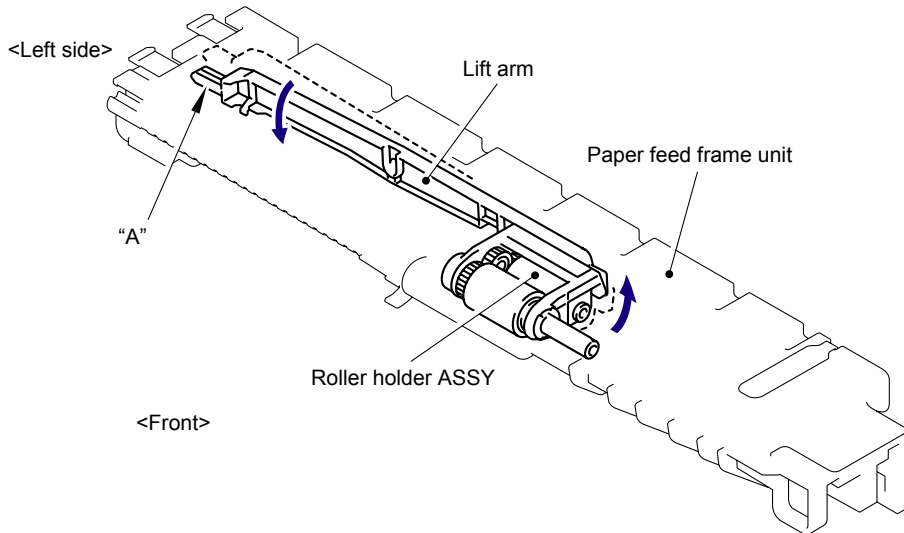

Fig. 3-182
- 1) When pushing up the Roller holder ASSY with your hand, the end (section "A") of the Lift arm goes down. That makes easy to push the end of the Lift arm under the section "B" shown in Fig. 3-182.